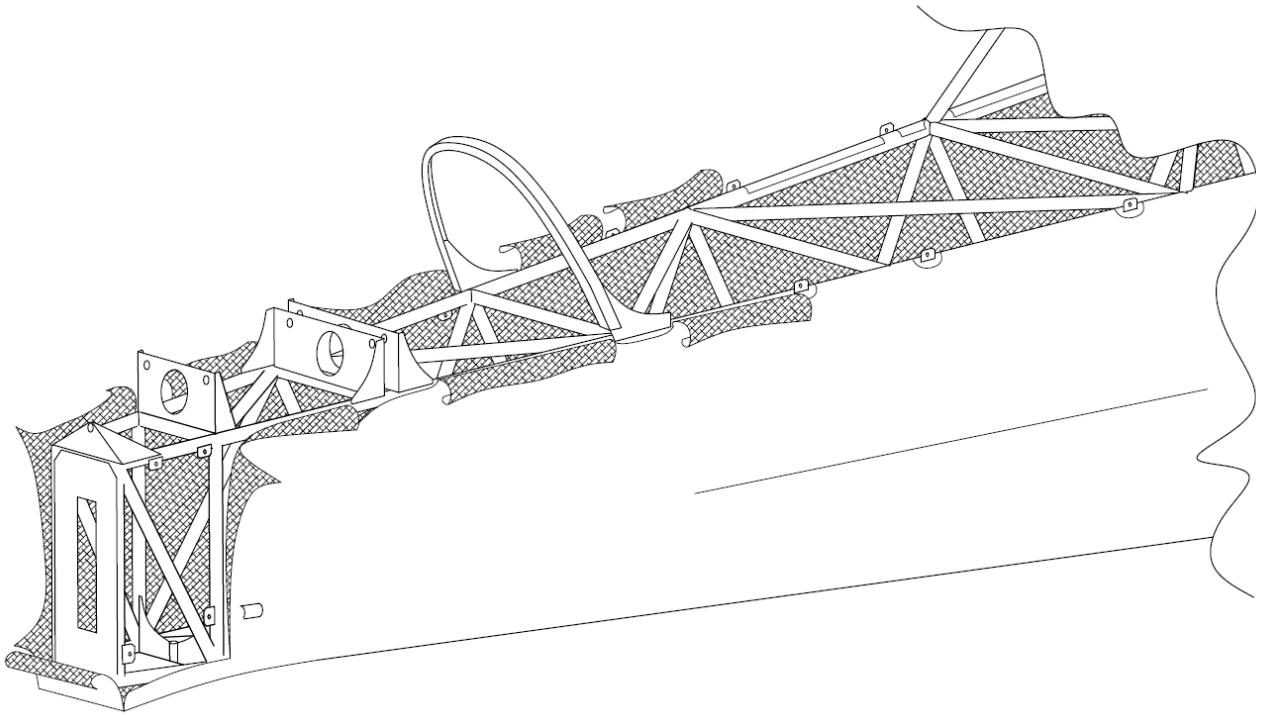

*Figure 1: Possible crack locations in the area of tail gear spring attachment (retrofit plates of SB-300-2-97 issue A installed)*
- Visual inspection of tail spring mounting along welds to fuselage tubing. Cracks have been reported at the spots marked in figure 1. Investigate these areas carefully. To assist the visual inspection it is helpful to use a torchlight and a magnifying glass.
- Inspect tail spring mounting base for previously unnoticed cracks, especially at the spots marked in figure 1.